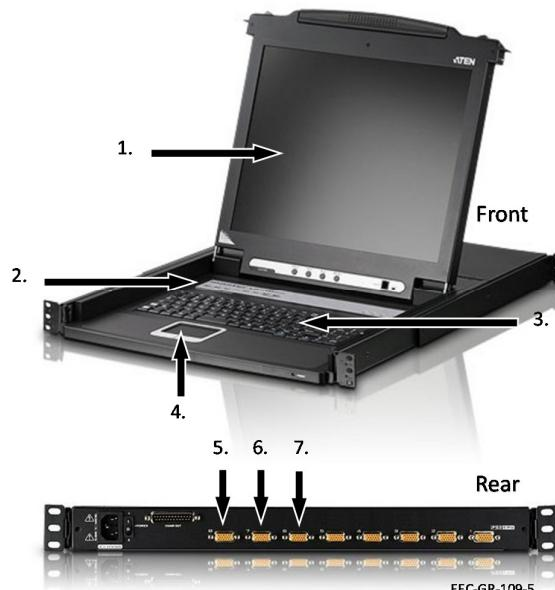

Figure 6. KVM Connections
- a. Check the Keyboard and Mouse Connectors on the back of the KVM. See Figure 6, points 5, 6, and 7.